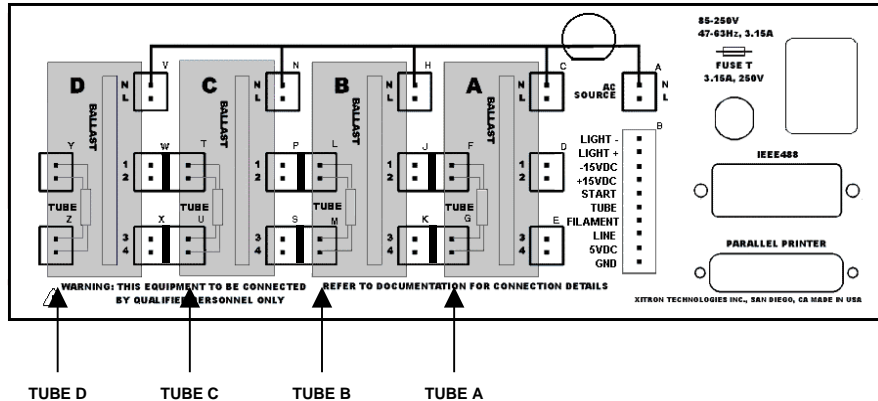

Figure 7. Four-pin Load Connections
Use the connection method shown in *Figure 7* and described below when testing four-pin ballasts, or multiple ballast types when some are of the four-pin variety.
1. Wire each load to the tube connectors in each section of the rear panel, as shown next to these connectors in Figure 7.